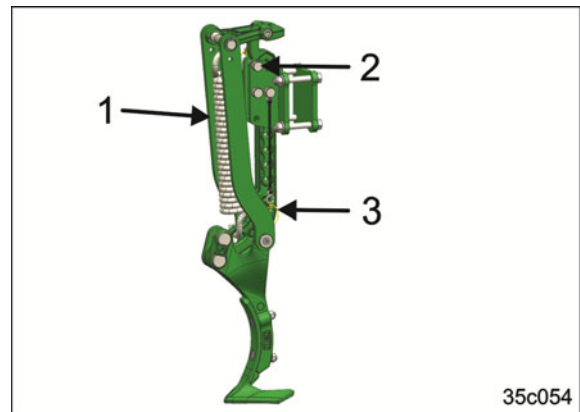

Fig. 121
8. Holding it by the recessed grip, insert the wheel mark eradicator in the bracket (Fig. 121/1)
9. Insert all of the positioning pins (Fig. 121/2).
10. Secure the positioning pins with linch pins (Fig. 121/3).